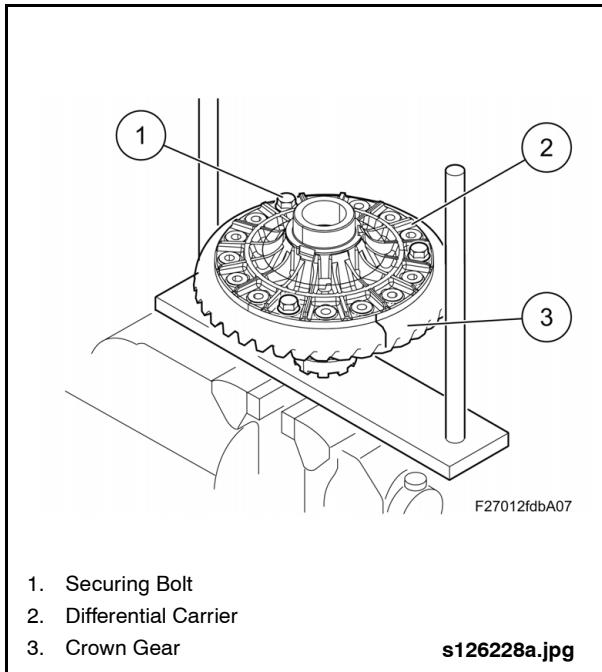

Fig. 2-60: Marking Crown Gear
10. Mark the crown gear in relation to differential housing and cover of differential housing. See "Fig. 2-60: Marking Crown Gear" on page 51.